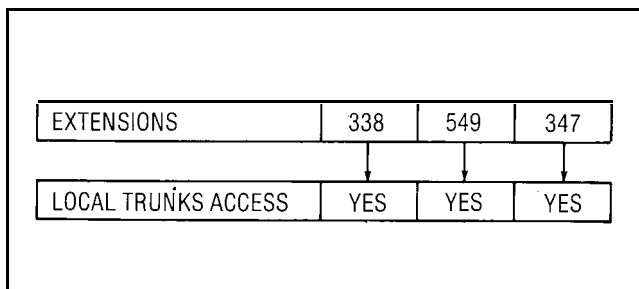

Fig. 5-2 O/I, Toll Restriction
5.07 The first consideration to toll restrict an extension in a PABX would be to limit the ability to access outgoing trunks. This is done when an extension is assigned a Class of Service (COS) (MITL9105/9110-98-205) with a specific Trunk Group access programmed into it. This does not restrict an extension's ability to make toll calls, but rather restricts the ability to access outgoing trunks. The problem in most PABX's lies in a system's ability to restrict an extension after it has accessed a trunk. (Fig. 5-2)